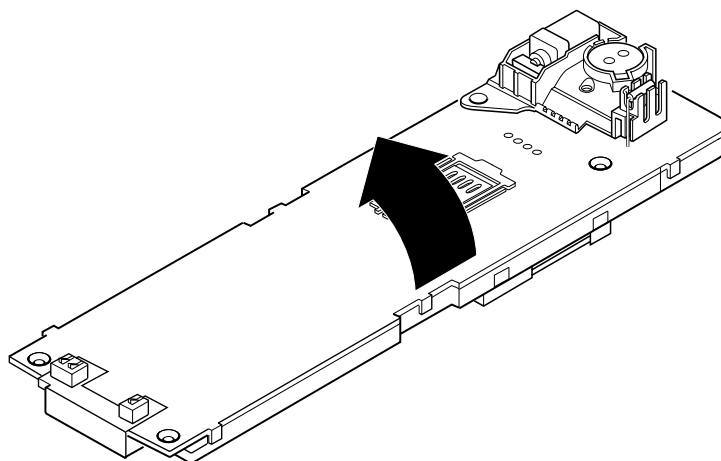

Figure 7: RF PCB removal
7. (Figure 7) Remove the RF board from the PCB chassis.